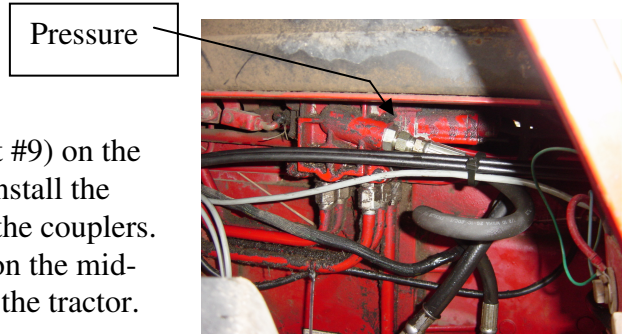

Fig 1-5
10. Disconnect the existing hose from valve on tractor and install the pressure 18" hose (Part #15) route to Koyker's valve. Some tractors may vary on where this port is located on the tractor valve. See instruction sheet for proper connections. **See in Fig. 1-5.**